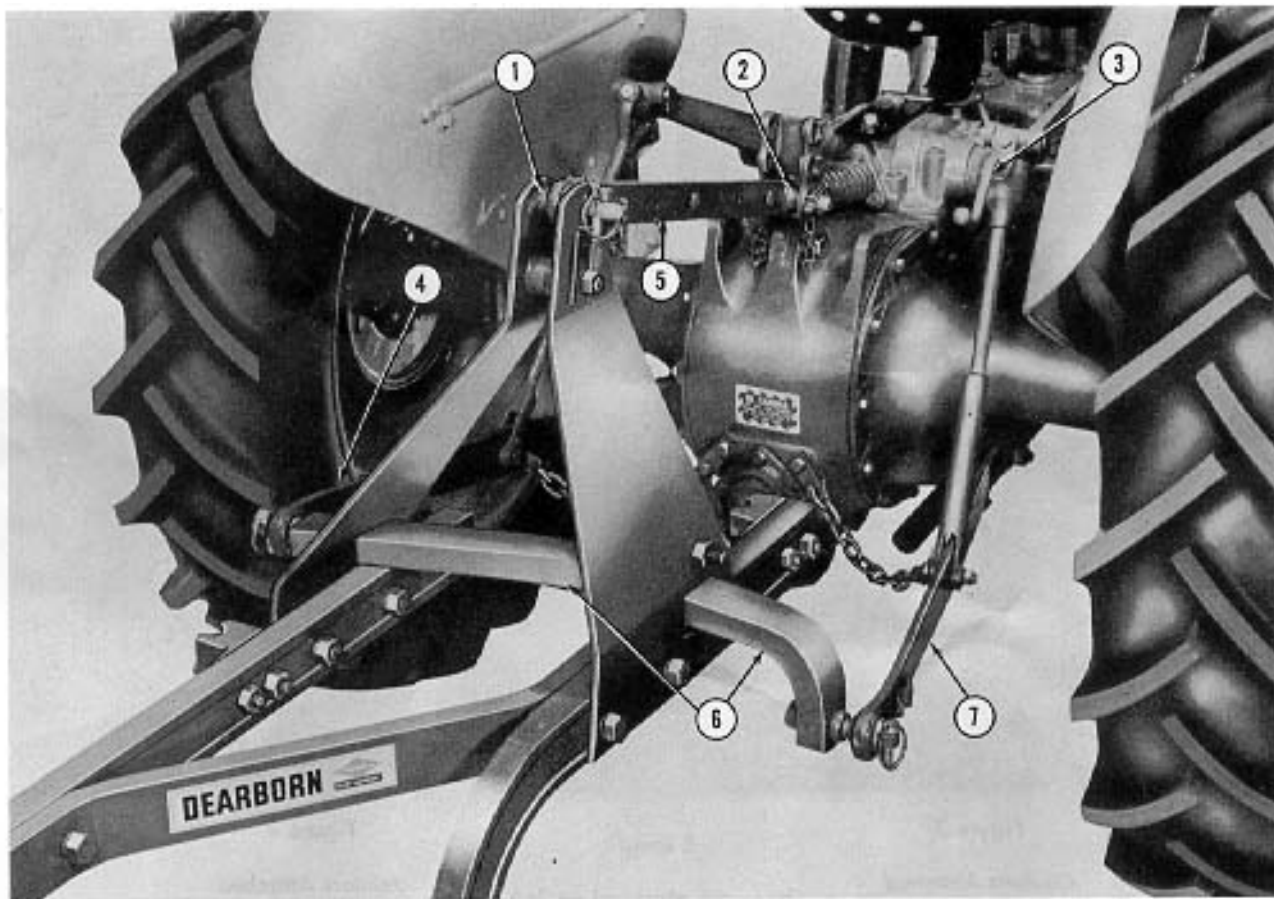

Figure 2
1. Back the tractor up to the plow frame so the lower links (4) and (7), Figure 2, are aligned with the plow cross shaft (6) as shown.
- a. Turn the adjusting crank (3), Figure 2, to
- b. Attach the lower links (4) and (7), Figure 2, to each end of the cross shaft and secure with the linch pins provided.
- c. Attach the tractor top link (5), Figure 2, to the top of the A-frame with the pin (1) and linch pin.
- d. Attach the forward end of the top link (5), Figure 2, to the lower hole on the tractor rocker assembly with the pin (2) and secure with linch pin.